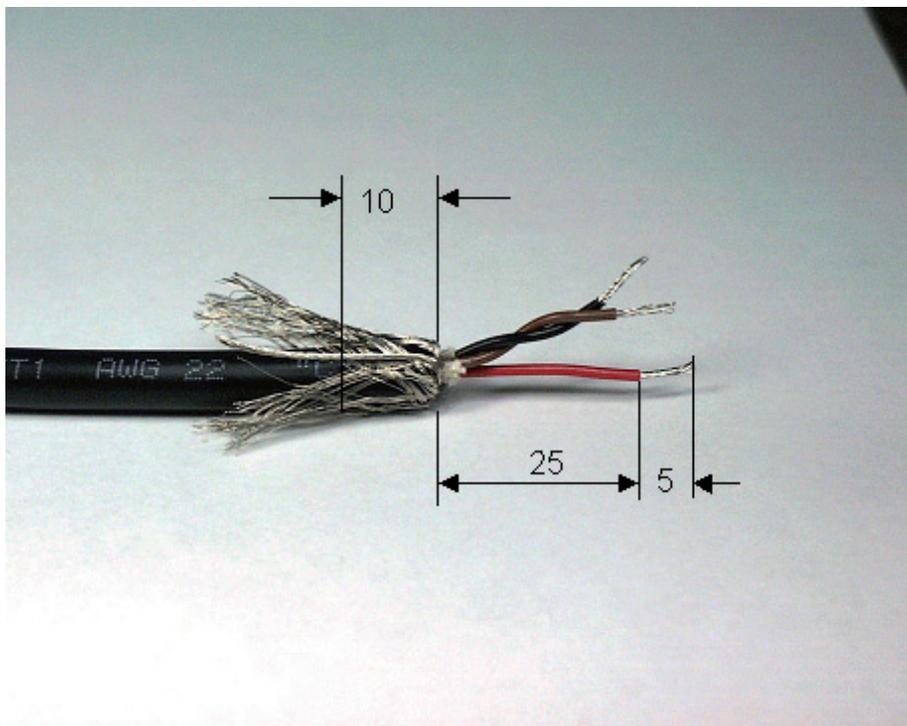

Fig. 8.1. Preparing the cable
As an example of using 2 X 2 wire twisted cores (Fig 8.1):
- Cut the braided shield 10mm from the end as shown in Fig. 8.1.
- Cut away the outer insulation approx. 40mm from the end of the cable and pull back the braided shield (as shown in Fig. 8.1).
- Cut the braided shield 10mm from the end (see Fig. 8.1)